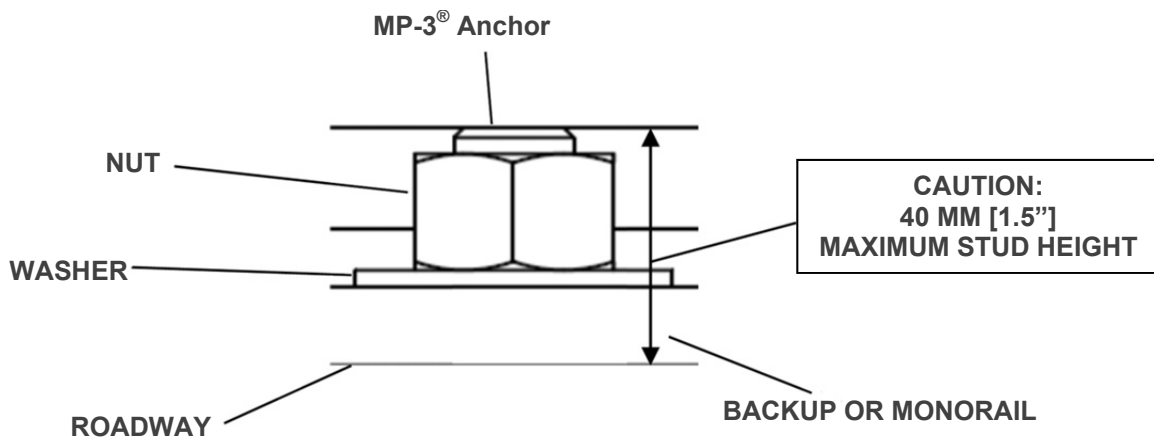

Figure 19
A) Monorail Assembly for Concrete Backup (Figure 19)
Anchor each Monorail section using the MP-3[®] vertical kits provided. See Figure 19 and the MP-3[®] Polyester Anchoring System Instructions included with this Manual. It is important to attach each segment of Monorail in alignment from the back to the front of the system (± 6 mm [1/4"]).